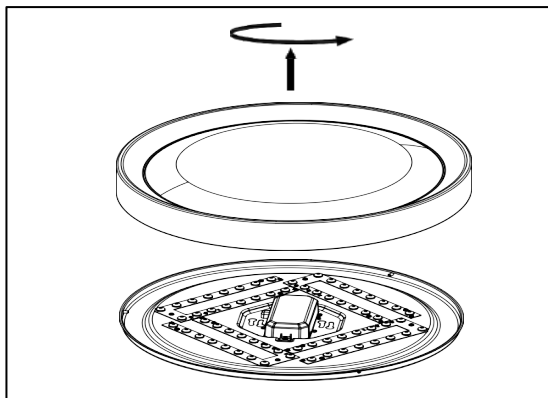

Figure 5
6. Remove diffuser (4) by rotating the diffuser toward the OPEN direction from the housing assembly (2). (See Figure 5)